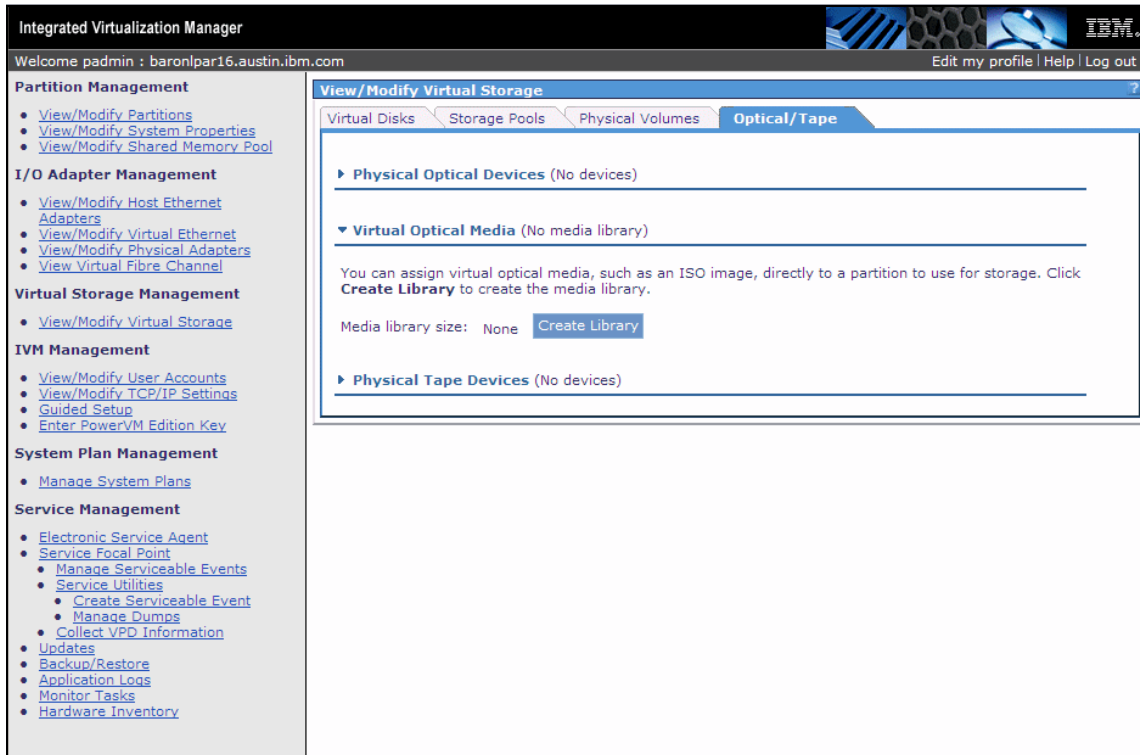

Figure 4-46 Create media library
1. Click the **Optical/Tape** tab in the View/Modify Virtual Storage window to create a media library. Then click the **Create Library** button, as shown in Figure 4-46 on page 136.